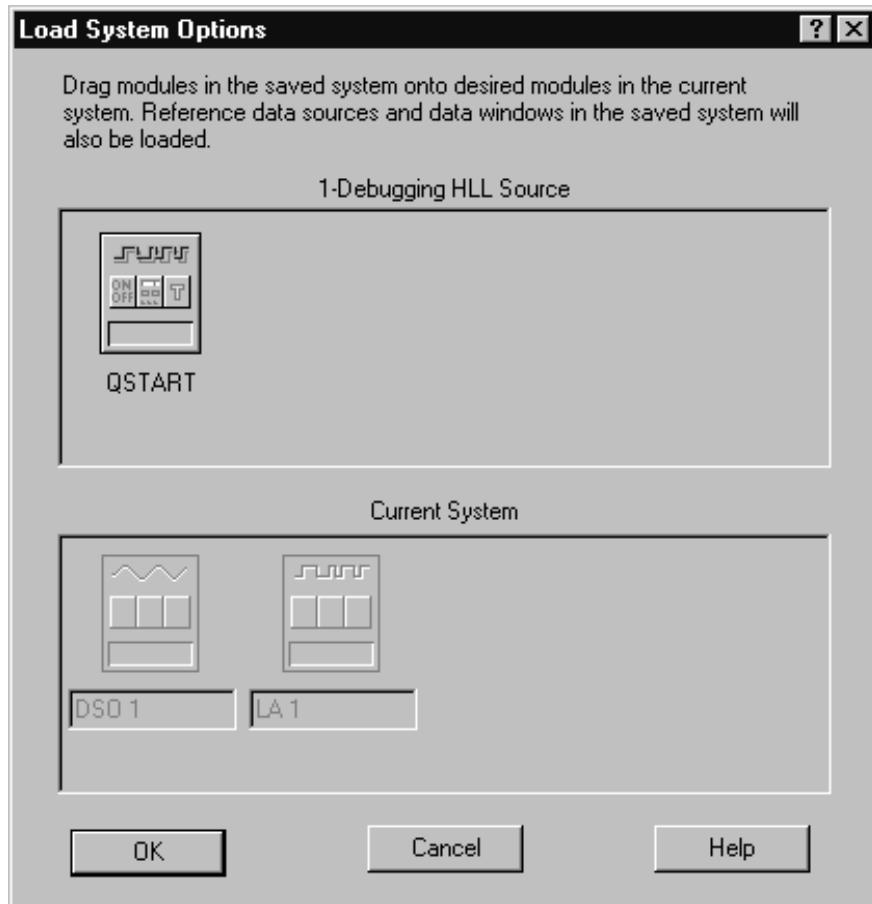

Figure 3-5: Load System Options dialog box
5. A Load System Options dialog box appears, similar to Figure 3-5.